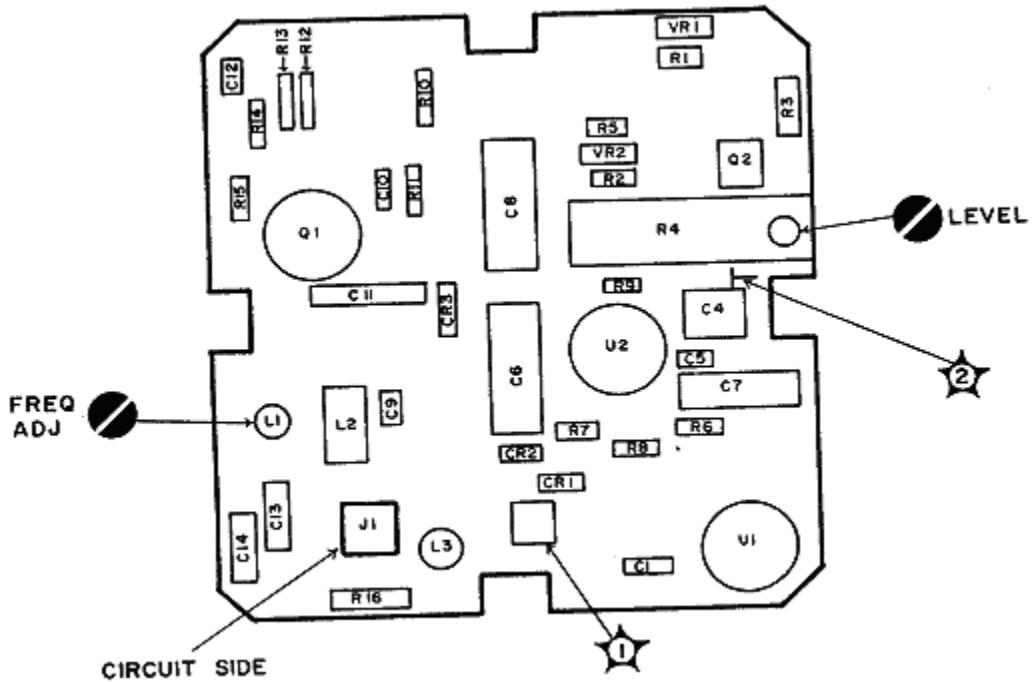

Figure 5. REF FREQ and LEVEL adjustments.
(2) Grasp power reference oscillator assembly firmly, and remove four screws which secure it to power meter chassis.
(3) Tilt power reference oscillator assembly to gain access to circuit board underneath metal cover, and adjust A8L1 (FREQ ADJ) (fig. 5) to obtain a 50.00 MHz indication on counter (R).
(4) Reposition power reference oscillator on power meter chassis but do not replace mounting screws.
(5) Observe indication on the counter. If it is 50.0 MHz, the adjustment procedure is complete. If it is not within these limits, repeat **b** (3) except offset power reference oscillator frequency as required to obtain a **50.0 MHz** indication on counter when power reference oscillator assembly is repositioned on power meter chassis.
- (13) If calculated PRF is not between 0.993 and 1.007 mW, perform **b** below.
**b. Adjustments.** Remove TI top cover and set TI **POWER REF** switch to **ON** (in) and adjust A8R4 LEVEL (fig. 5) so that calculated PRF in **a** (13) above is 1 mW.